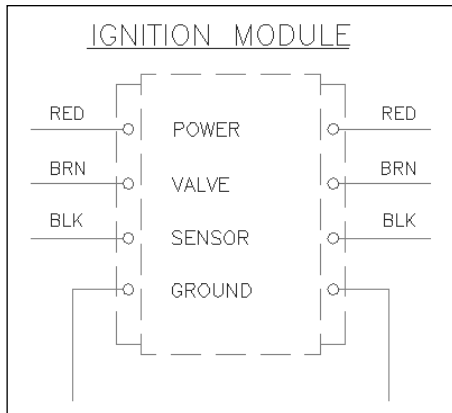

Figure 13-29: The text on the right was mirrored with MIRRTEXT set to 0.
8. Repeat the mirror operation using the same instructions as in step 5. This time the command mirrors the objects, but the text reads properly, as shown in Figure 13-29.